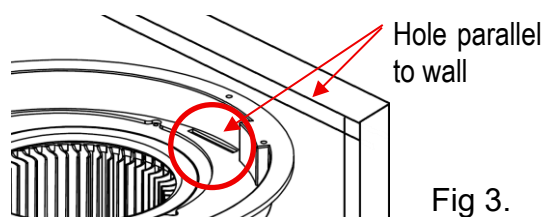

Fig 3.
12. Align the hole parallel to a wall. (Fig 3)